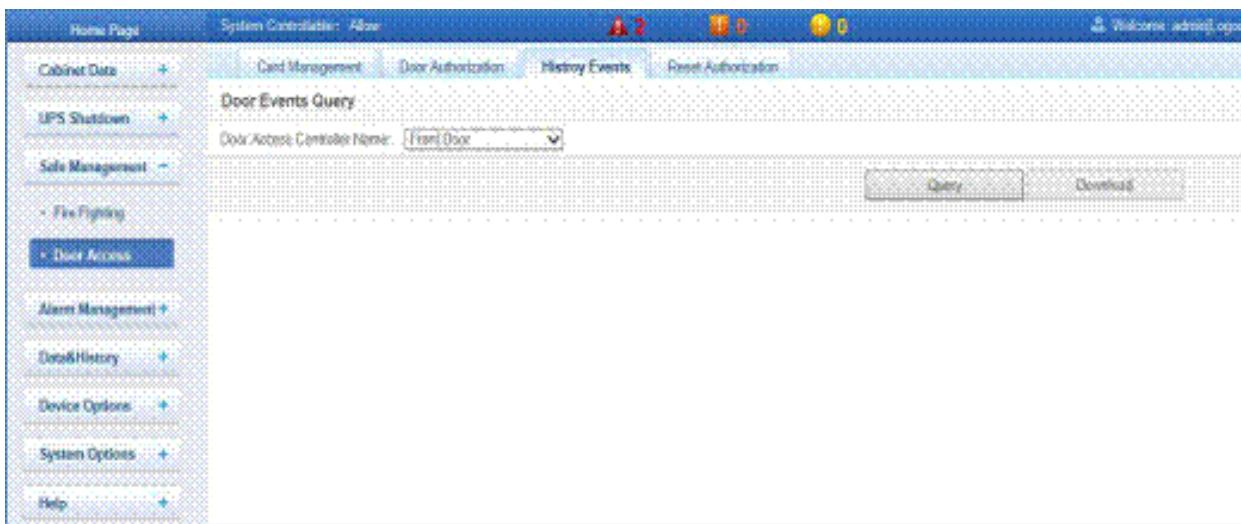

Figure 4-65 History Events
- » Next is the History Events tab wherein event logs of the access control function can be viewed. Select the controller name and click on the Query button to gain information about the Door events. Alternatively, the results can be downloaded using the Download button as shown in Figure 4-65.